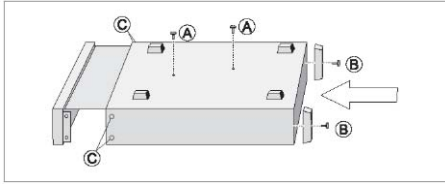
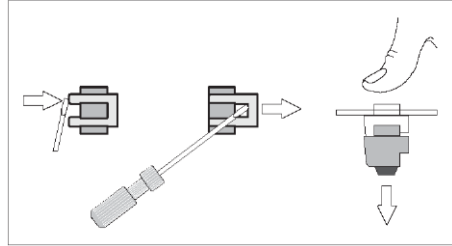

Fig. 1-5 Remove the screws and push the counter out of the cover.
Fig. 1-6 Removing feet from the cover.
- See Fig. 1-5.
- Push the instrument back into the cover. See Fig. 1-5.
- Mount the two rear feet with the screws (B) to the rear panel.
- Put the two screws (A) back.
- Fasten the brackets at the left and right side with the screws included as illustrated in Fig 1-6